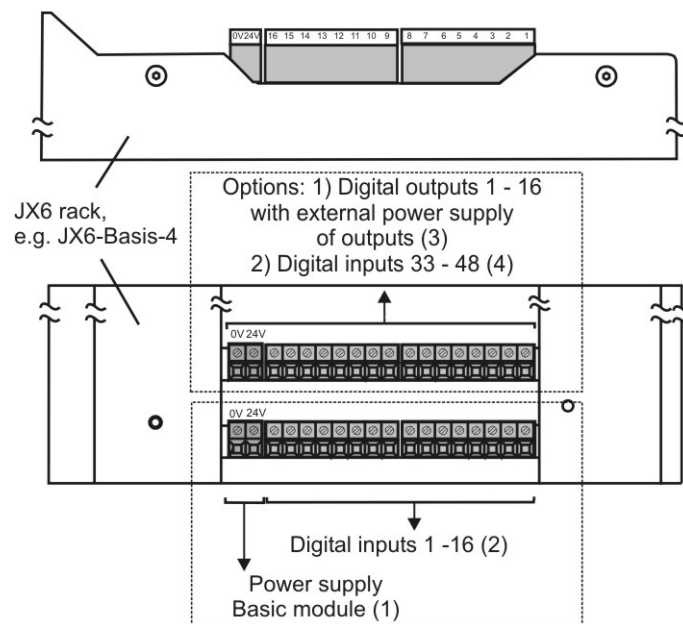

Fig. 20: Top and Side Views of the JX6 Rack
- Disconnect the 2-pin terminal (1) of the power supply for the basic module (refer to Fig. 20).
- Disconnect the two 8-pin terminals (2) of the 16 digital inputs located on the basic module (refer to Fig. 20)
Remove the 2-pin terminal (3) of the external voltage supply of the outputs and the two 8-pin terminals (3) of the 16 digital outputs, or the two 8-pin terminal blocks (4) of the digital inputs 33 to 48 (refer to Fig. 20).